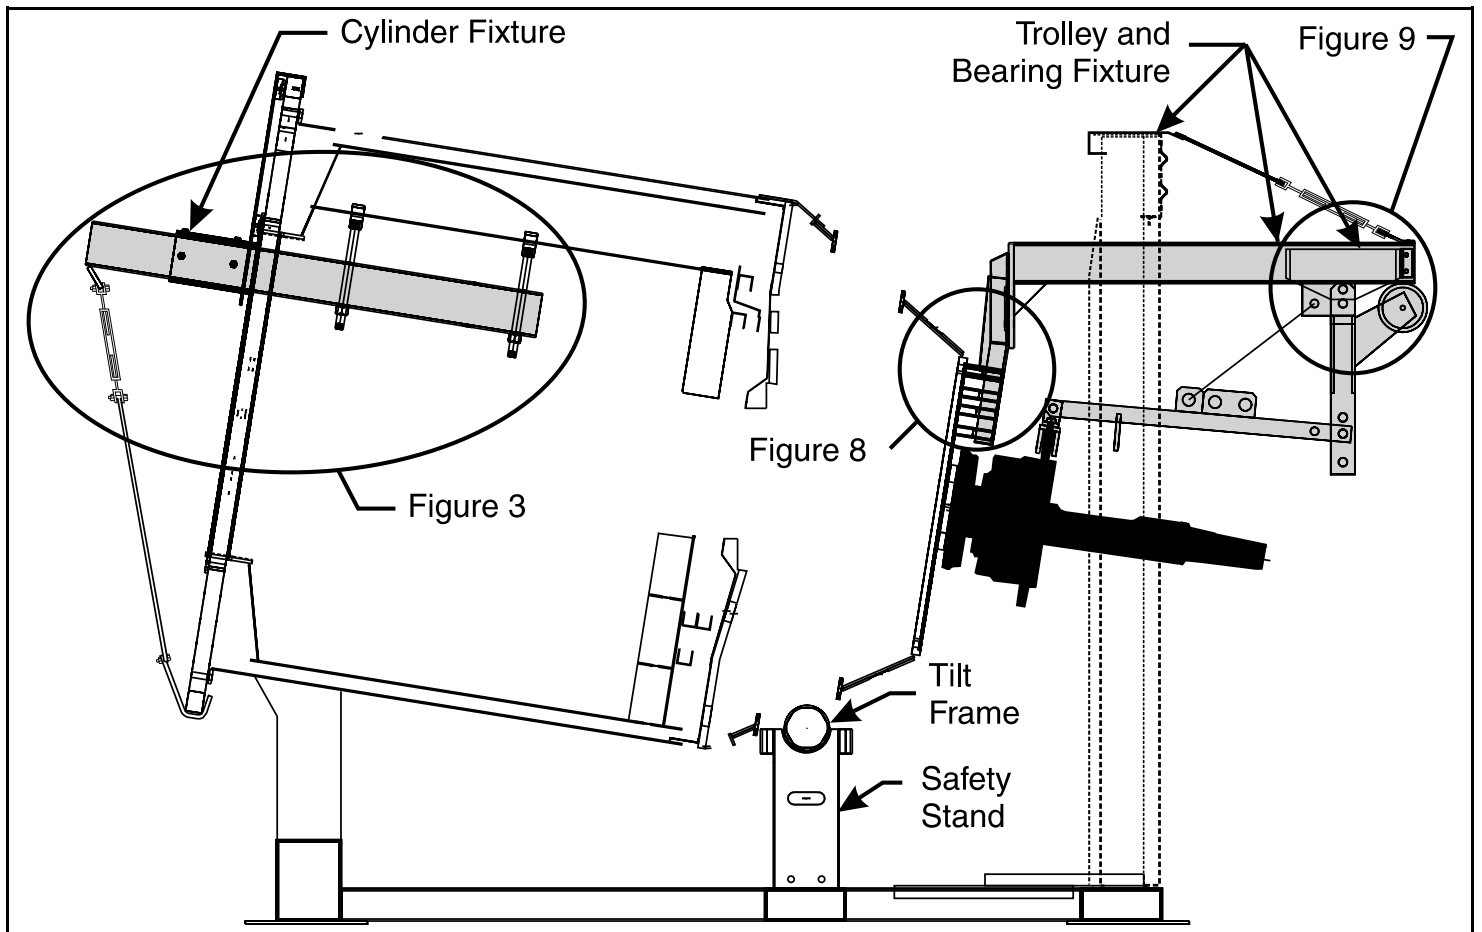
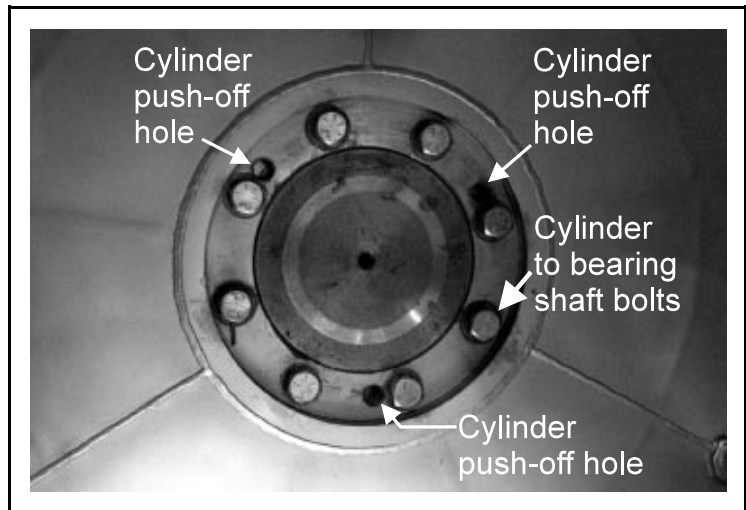
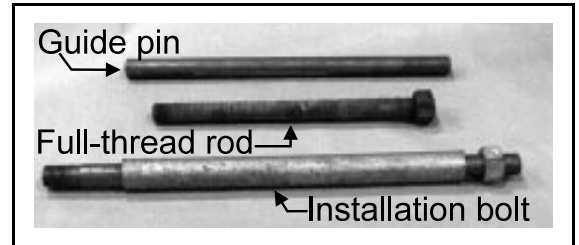
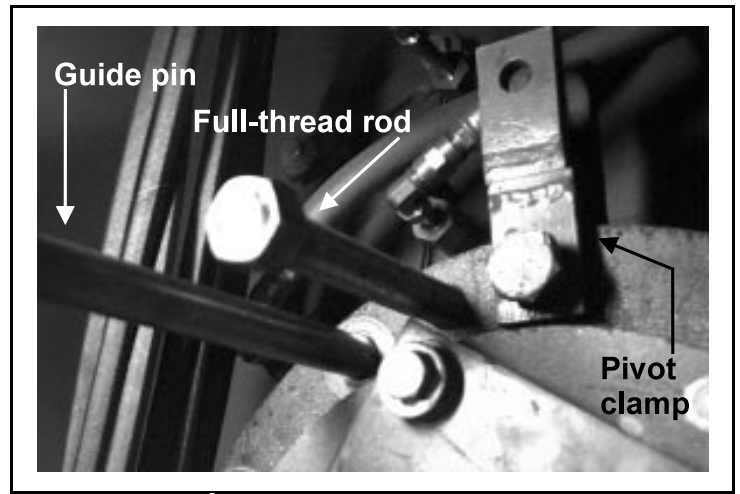

FIGURE 1 (MSSMA430AE)
FIGURE 4 (MSSMA430AE)
FIGURE 5 (MSSMA430AE)
FIGURE 15 (MSSMA430AE)
Installing the Cylinder Fixture and Removing the Cylinder Bolts—For ease of re-assembly, the kit includes a cylinder fixture (FIGURES 1 and 3) to align and support the cylinder within the shell after the cylinder-to-bearing bolts are removed.
3. Remove protective cover in center of the cylinder (5/16 allen wrench). Remove the plastic plugs covering the three cylinder push-off holes (FIGURE 4). Install full-thread rods (FIGURE 5) in the cylinder push-off holes. Only hand-tighten the rods at this time. Remove the cylinder-to-bearing shaft bolts (FIGURE 4).
2. Install trolley and bearing fixture (FIGURES 1, 8, 9, and 10).
6. Remove bearing housing bolts. Replace three of the bearing housing bolts with guide pins (FIGURES 5 and 15). These guide pins support the loosened bearing housing until the pivot clamp (FIGURES 1 and 15) and trolley can be attached. Thread three full-thread rods into the bearing housing push-off holes (FIGURE 15). From inside the cylinder, one person uses the full-thread rods (installed previously), to push the bearing housing out of the shell, while a second person at the rear of the machine uses the bearing housing full-thread rods to pull the bearing housing about one inch out of its mounting ring. **Attach pivot clamp and trolley lifting fixture as soon as possible to ensure that the housing does not drop out of the shell.** Remove the bearing housing and shaft.
6. Install three guide pins through the bearing housing and into the mounting ring. From inside the cylinder, install three all-thread rods through the cylinder and into the shaft hub to align the cylinder and the shaft. Using the installation bolts (FIGURE 5), draw the housing one eighth-inch (3 mm) into the mounting ring. Tighten the all-thread rods and draw the cylinder one inch (25mm) onto the shaft. Repeat this procedure, tightening the housing one-half inch (13mm) and the cylinder one-half inch (13mm) until both seat firmly. Torque housing and cylinder bolts to 500 foot-pounds (69 Kg/m). Remove bearing setting fixture.